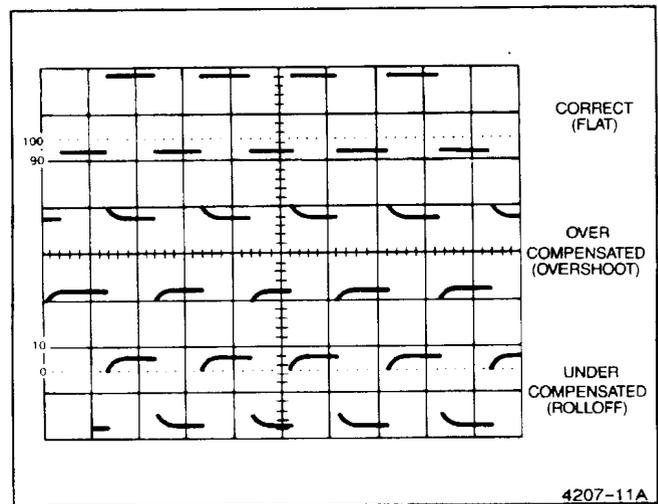

Figure 2-5. Probe compensation.
5. Check the waveform display for overshoot and rounding (see Figure 2-5); if necessary adjust the probe's compensation. Use a low-reactance alignment tool to adjust the LF comp capacitor for a square front corner on the waveform.